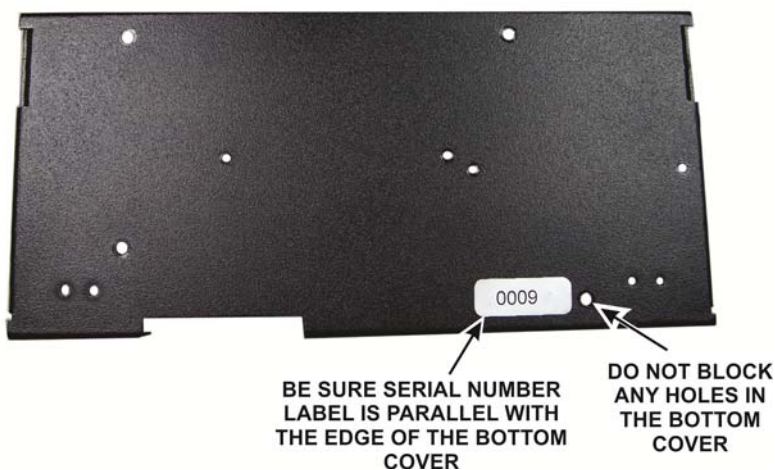

Figure 28. Placing the Serial Number on the Bottom Cover.
- ☐ Peel the protective cover off of the back of the self-adhesive serial number label and affix it to the bottom cover as shown in Figure 28.